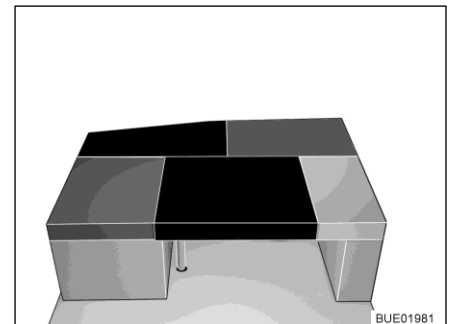

Fig. 155 After conversion
- Place the rectangular additional cushion on the table (between the seat cushion and the back cushion of the lateral seat, see Fig. 155).